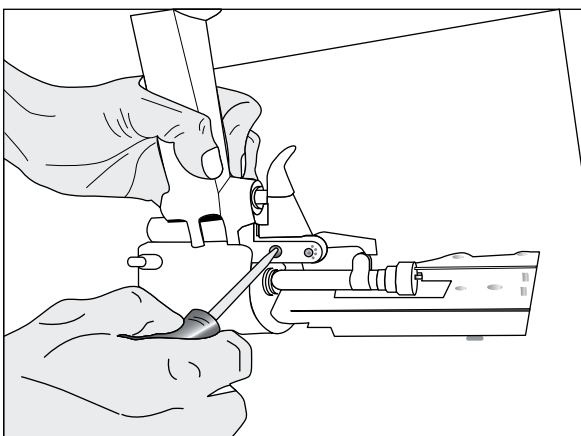

Figure 27
1. Loosen screws with a flat screwdriver. (See Figure 27)